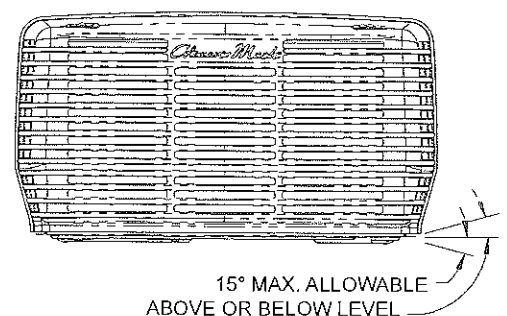

FIGURE 3
- C. The roof top air conditioner must be mounted as near level from front to rear and side to side as is possible when the vehicle is parked on a level plane. Figure 3 shows maximum allowable degree deviations (mounting degrees from total surface flat plane).